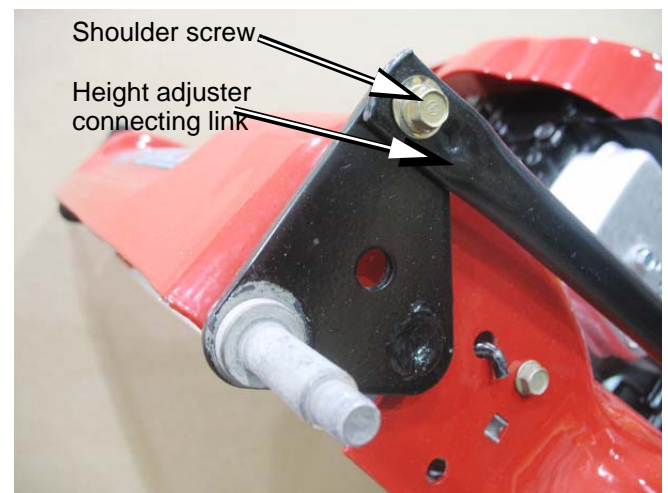

Figure 2.4
3. Remove the shoulder screw that holds the height adjuster connecting link to the front axle. Use a 3/8" wrench. See Figure 2.4.